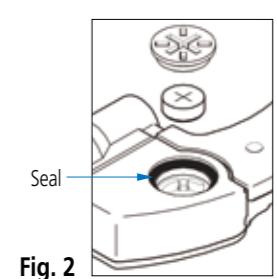

Fig. 2
6. When tightening the output connector cover and battery ensure that the seals are correctly seated so that they do not protrude (only for Digimatic models). (Fig. 2)